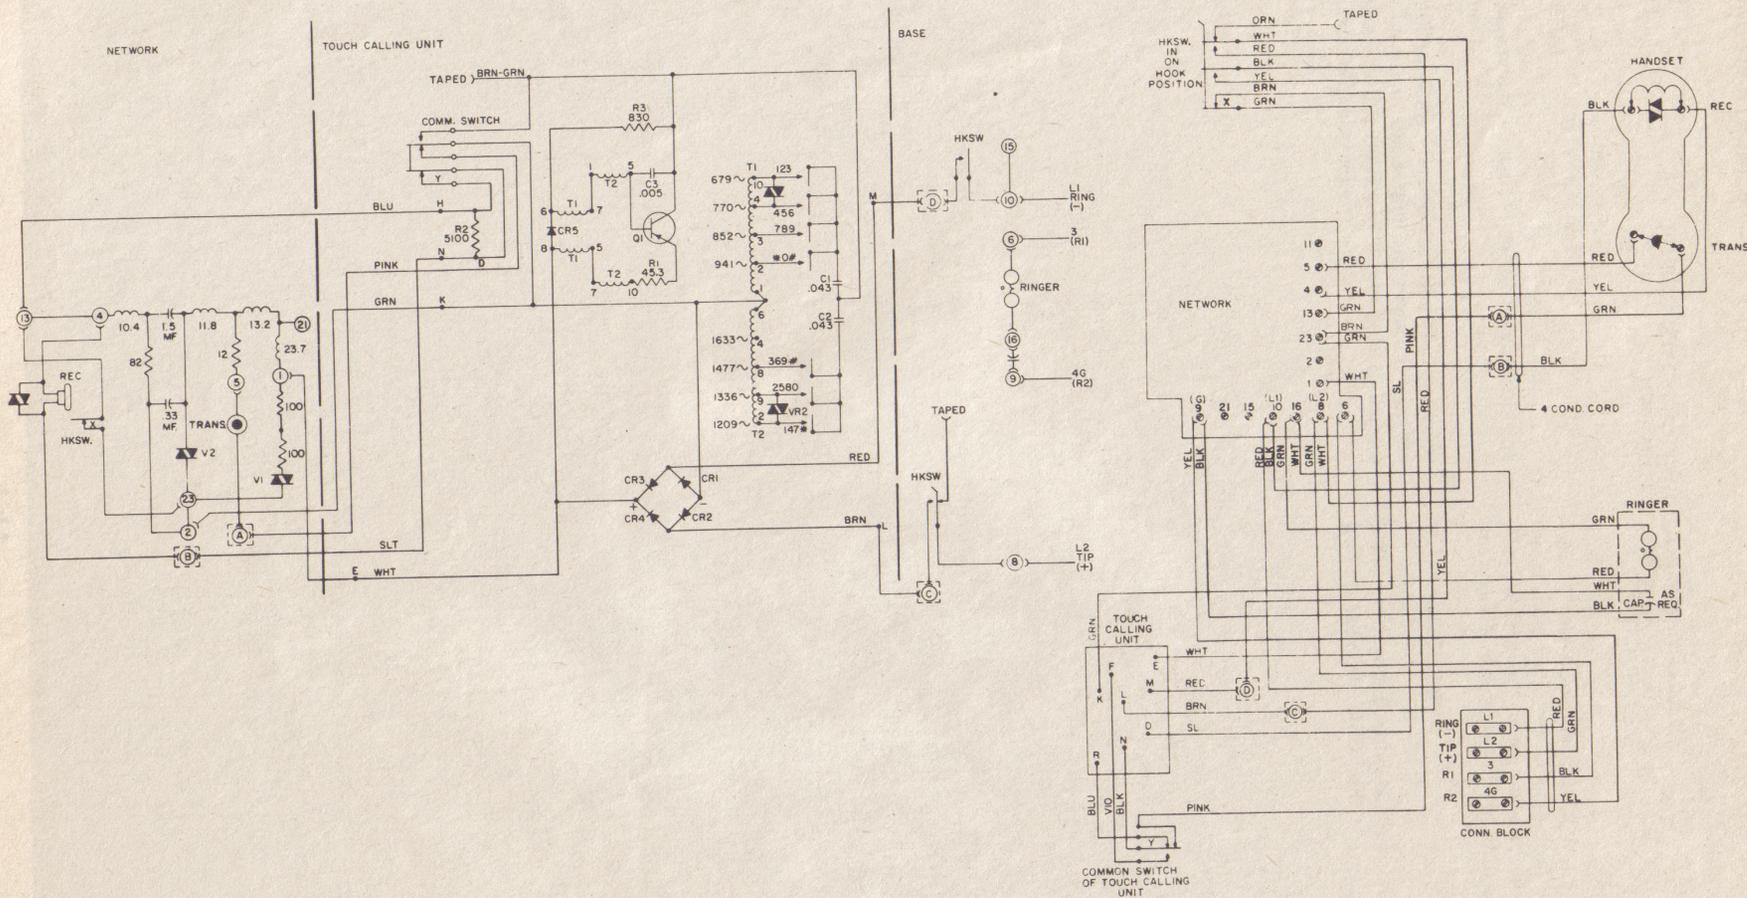

Figure 11. Attendant's Set Conversion, Type 80 Telephone Instrument With Touch Calling Unit.
2.15 The wiring diagram of a Type 80 telephone set equipped with Touch Calling unit is shown in Figure 11 as modified in accordance with the above procedure.